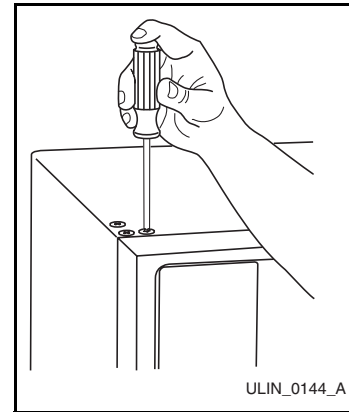

Figure 22
9. Remove three plastic screw plugs in hinge holes, top of cabinet, opposite side; being careful not to scratch cabinet (**Figure 22**).